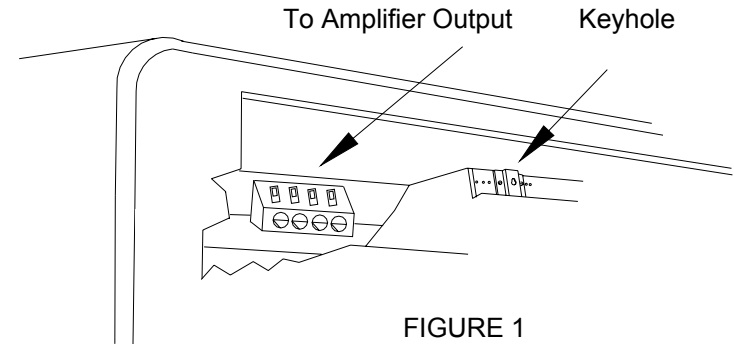

FIGURE 1
- The baffle can be hung from a nail or hook by the "keyhole" that is attached to the back of the housing. (Figure 1)